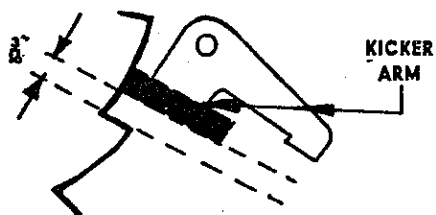

FIG.3
- (b) To adjust back axle trigger, slacken screw "a" and set trigger for minimum clearance. Tighten screw but not lock nut and check that payout plate and thrust arm pad are engaged for mechanism at rest. When handle is pulled nearly down, kicker arm pad must travel from engagement position to $3/16"$ beyond next two payout plate teeth, as shown in Fig. 3. Stopper arm release should clear small side frame by $1/4"$ to $1/2"$.